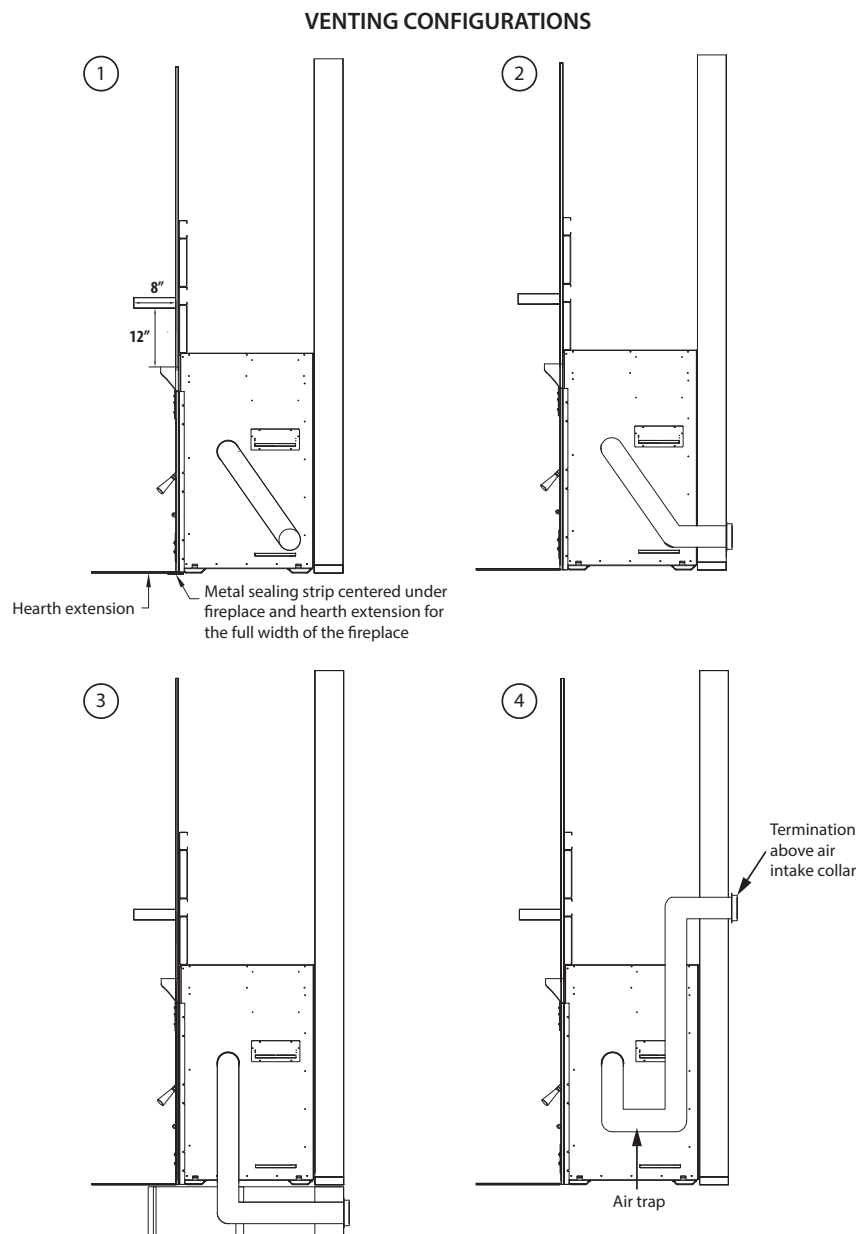

Figure 3.10, Combustion Air Duct Venting Configurations
**NOTE:** If the air intake duct pipe will terminate at the same height or above the combustion air intake collar on the fireplace, an air trap is recommended. See venting configurations in Figure 3.10, Combustion Air Duct Venting Configurations on page 19.